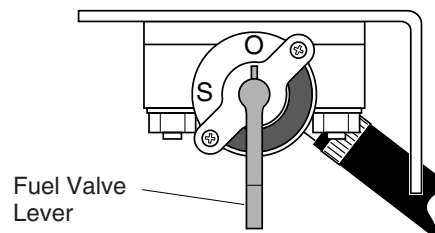

Figure 15 - Fuel Valve Lever in "O" (open) Position
2. Move fuel valve lever to the "O" (open) position (see Figure 15).
2. Move fuel valve lever to the "O" (open) position. (see Figure 15).